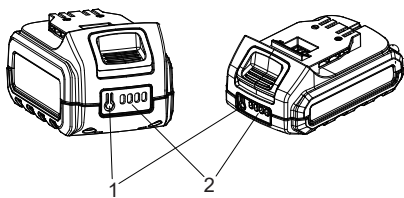

Fig. 2
Press the capacity indicator button (1) to check whether it needs to be charged (Fig.2).